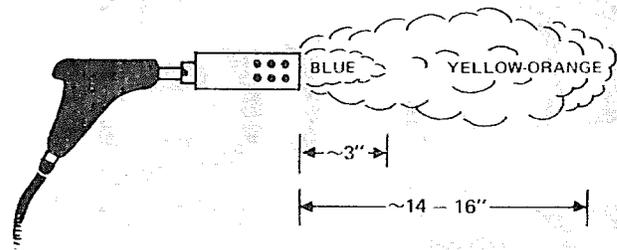

Fig. 30
(13) Place the metal channel in place. The ends of the channel should extend at least ½ inch beyond the edge of the WRS.
(14) Before shrinking, position the WRS so that the metal channel will not ride directly on top of the pressure plug and flange.
(15) Prepare to shrink the WRS:
- Ignite the torch and adjust flame as shown in Fig. 30.